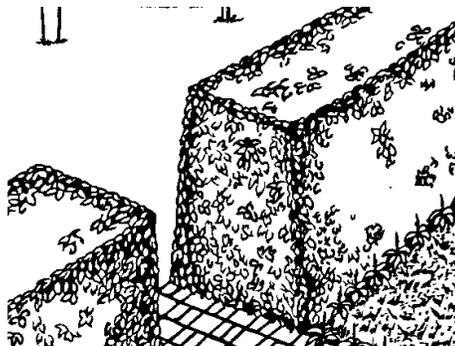

Figure 13
- Trim the side of a hedge so that it will be slightly narrower at the top as shown in Figure 13. More of the hedge will be exposed when shaped this way and its growth will be more uniform.